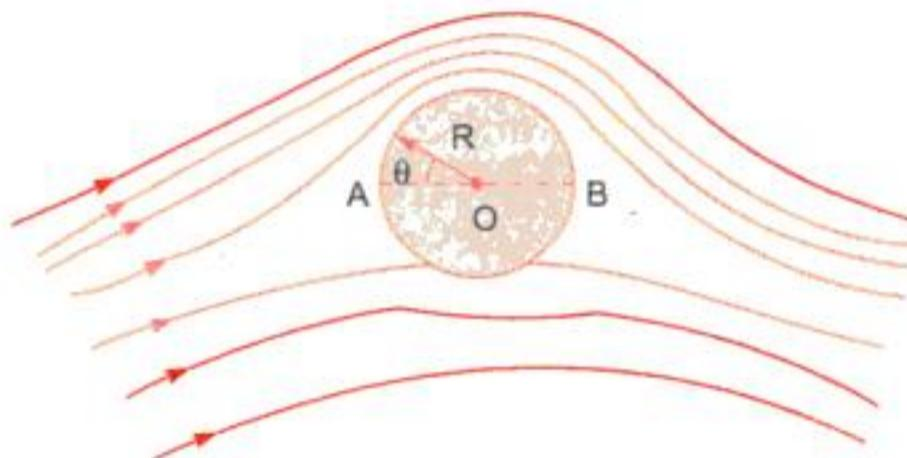

Fig. 14.12 Flow pattern over a rotating cylinder.
Flow over Cylinder due to Constant Circulation. The flow pattern over a cylinder to which a constant circulation (Γ) is imparted is obtained by combining the flow patterns shown in Fig. 14.9 and Fig. 14.11 (a). The resultant flow pattern is shown in Fig. 14.12. The velocity at any point on the surface of the cylinder is obtained by adding equations (14.12) and (14.14) as
14.7.3 Expression for Lift Force Acting on Rotating Cylinder. Let a cylinder is rotating in a uniform flow field. The resultant flow pattern will be as shown in Fig. 14.12. Consider a small length of the element of the surface of the cylinder.